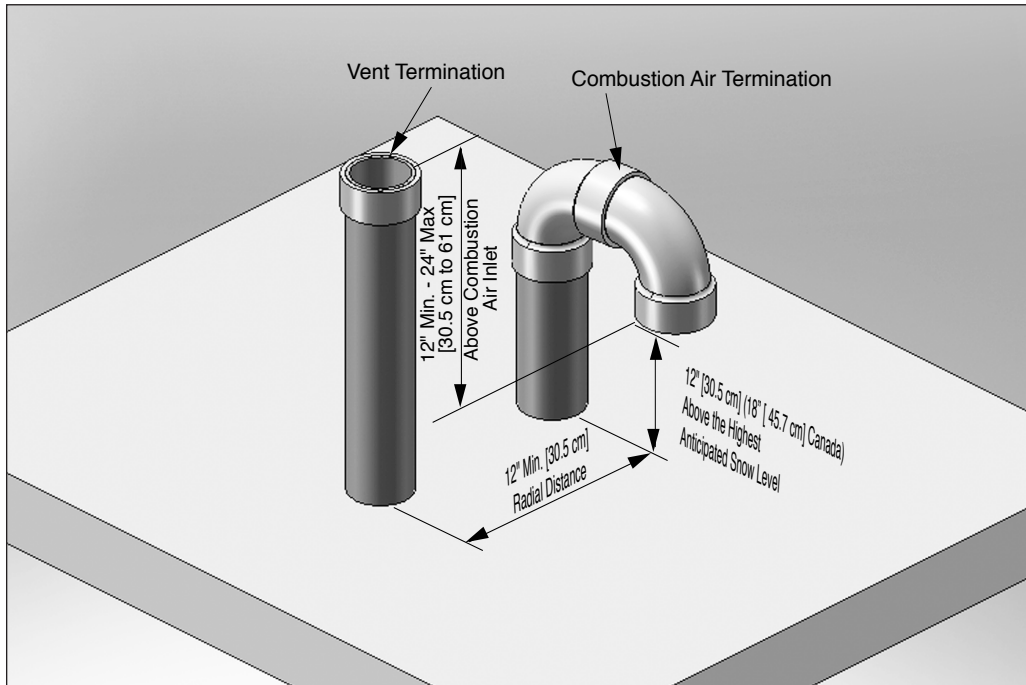

Fig. 1 - Direct Vent - Vertical Termination of Vent and Combustion Air Piping.
2. The combustion air piping must terminate in an upside down “U” shape fashion using two 90° elbows, as shown in *Fig. 1 on page 12.* The termination must be located 12” [30.5 cm] (18” [45.7 cm] in Canada) above the highest anticipated snow level.
3. The vent piping must terminate vertically with a coupling to accept the bird screen and must be located 12” to 24” [30.5 cm to 61 cm] above the combustion air inlet as shown in *Fig. 1 on page 12.*
4. The vent and combustion air terminations must be located at a radial distance of 12” to 24” [30.5 cm to 61 cm] from centerline of vent termination to centerline of air termination as shown in *Fig. 1 on page 12.*
3. Locate the vent and combustion air pipe penetrations to provide clearances as described in *Fig. 1 on page 12*.
2. The combustion air piping must terminate in an upside down "U" shape fashion using two 90° elbows as shown in *Fig. 1* on page 12.
3. The vent piping must terminate vertically with a coupling as shown in *Fig. 1* on page 12.
Do not extend the vent pipe above the roof beyond the dimensions shown in *Fig. 1* on page 12. Extended exposure of the vent pipe could cause condensate to freeze and block the vent pipe, resulting in substantial property damage, serious injury, or death.